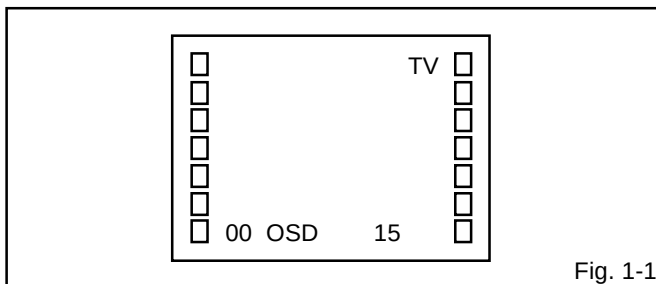

Fig. 1-1
Press the VOL. DOWN button on the set and the Channel button **(9)** on the remote control for more than 1 second to appear the adjustment mode on the screen as shown in **Fig. 1-1**.
4. Activate the adjustment mode display of **Fig. 1-1** and press the channel button **(02)** on the remote control to select "RF.AGC".
3. Activate the adjustment mode display of **Fig. 1-1** and press the channel button **(01)** on the remote control to select "CUT OFF".
4. Activate the adjustment mode display of **Fig. 1-1** and press the channel button **(10)** on the remote control to select "R. BIAS".
4. Activate the adjustment mode display of **Fig. 1-1** and press the channel button **(03)** on the remote control to select "V.VCO".
3. Activate the adjustment mode display of **Fig. 1-1** and press the channel button **(05)** on the remote control to select "H.PHAS".
3. Activate the adjustment mode display of **Fig. 1-1** and press the channel button **(06)** on the remote control to select "V.SIZE".
1. Activate the adjustment mode display of **Fig. 1-1**.
3. Activate the adjustment mode display of **Fig. 1-1** and press the channel button **(13)** on the remote control to select "BRI.CENT".
2. Activate the adjustment mode display of **Fig. 1-1** and press the channel button **(22)** on the remote control to select "TINT".